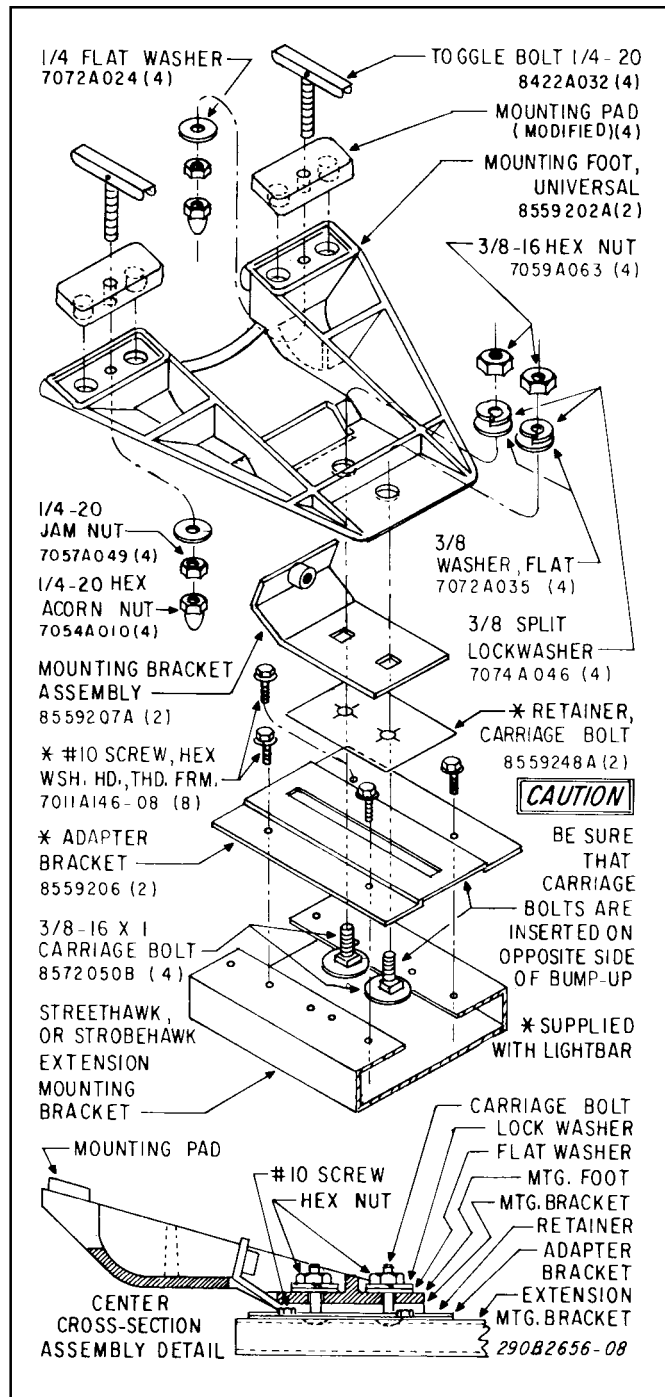

Figure 3.
2. Assemble two 3/8-16 carriage bolts to each adapter bracket with a bolt retainer as shown in figure 3.
3. See figure 3. Assemble an adapter bracket assembly to the extension mounting bracket on each end of the light bar using eight #10 hex head screws (four for each bracket). We recommend that the adapter bracket assemblies be fastened to the appropriate holes, provided in the extension mounting brackets, that best suits your installation. Tighten securely.
flat washers, 3/8 lockwashers and 3/8-16 hex nuts as shown in figure 3.